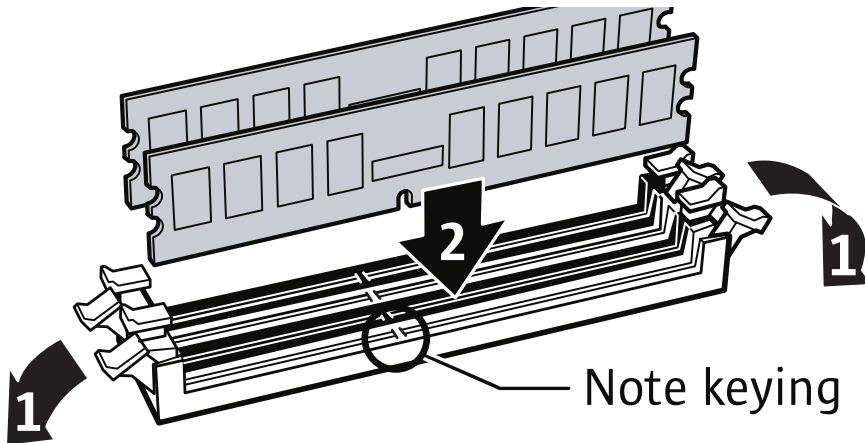

FIGURE 3-52 Inserting the DIMM Into the Slot
3. Align the notch in the bottom edge of the DIMM with the key in the DIMM socket. See FIGURE 3-52.
4. Press down evenly on both top corners of the DIMM until the ejectors snap over the cutouts in the left and right edges of the DIMM (FIGURE 3-52).